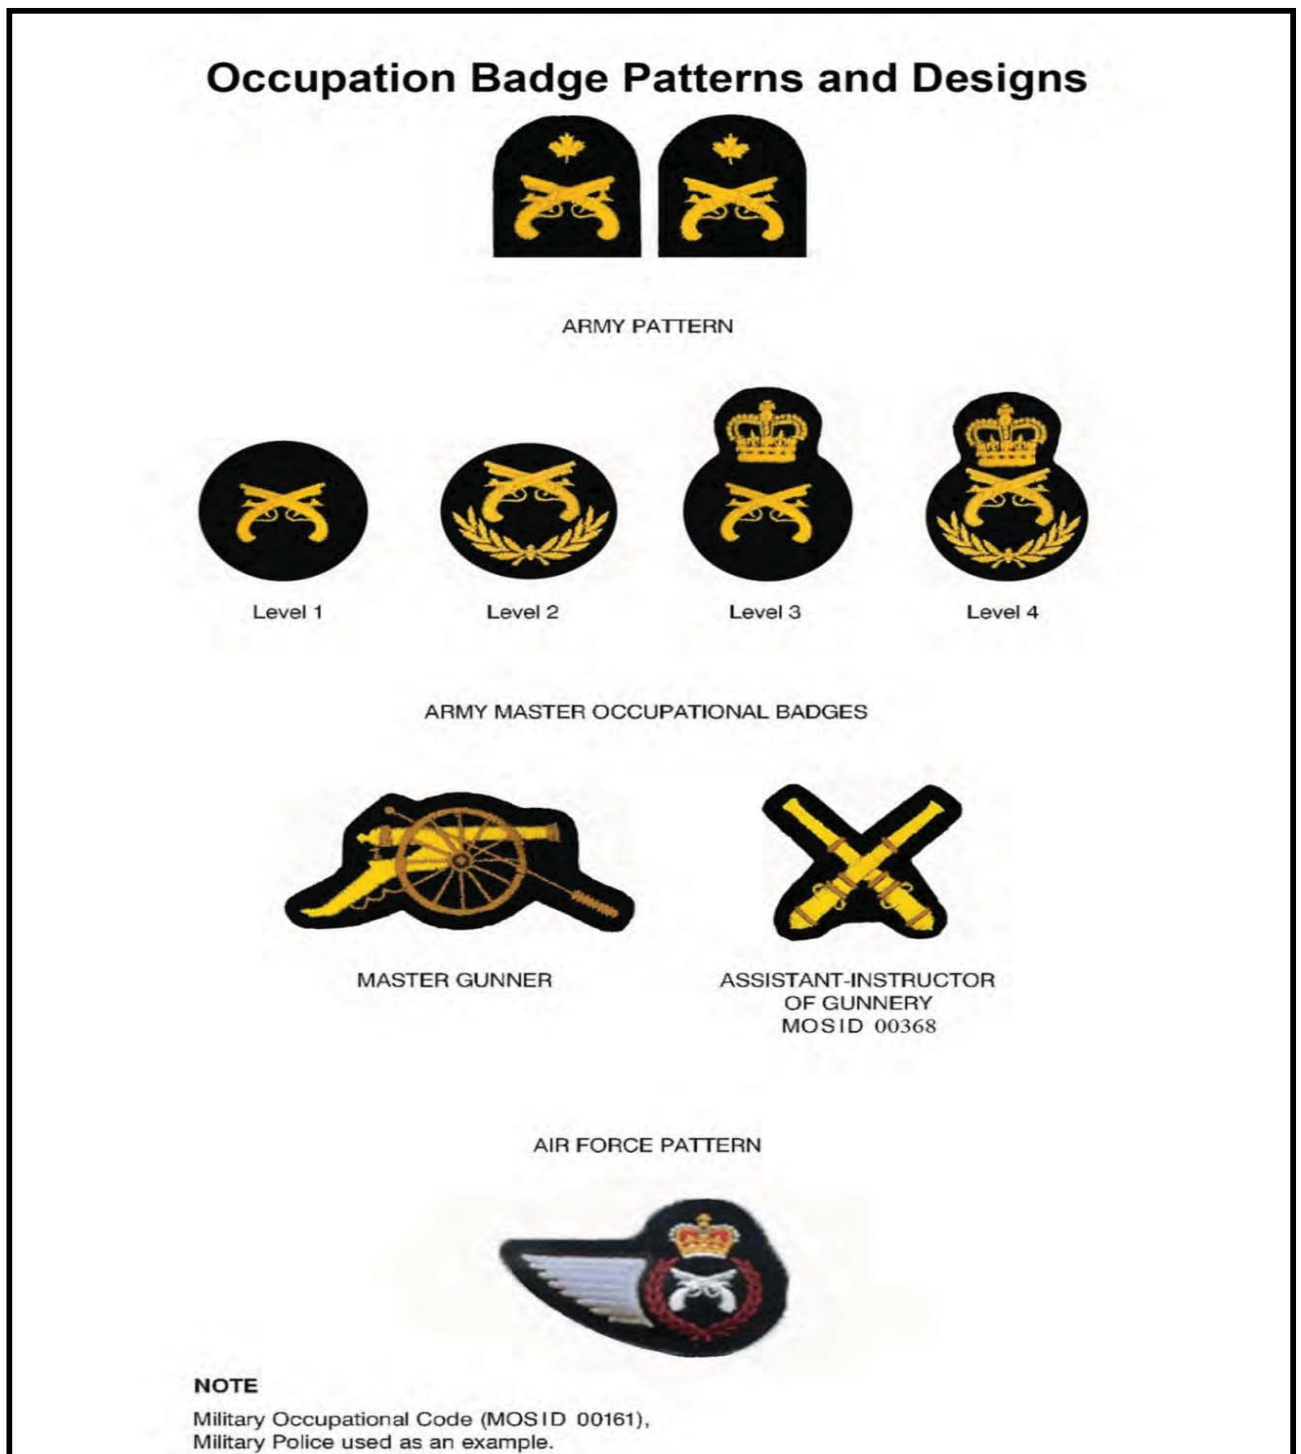

Figure 3C1- 1 Occupation Badge Patterns and Designs
1. **General.** Occupation badges are worn in accordance with Figure 3C1-1 and Appendix 1, and only on the clothing items indicated.
1. Symbols are common for all members of a military occupation, but are used in the appropriate environmental badge pattern. See Figure 3C1-1.